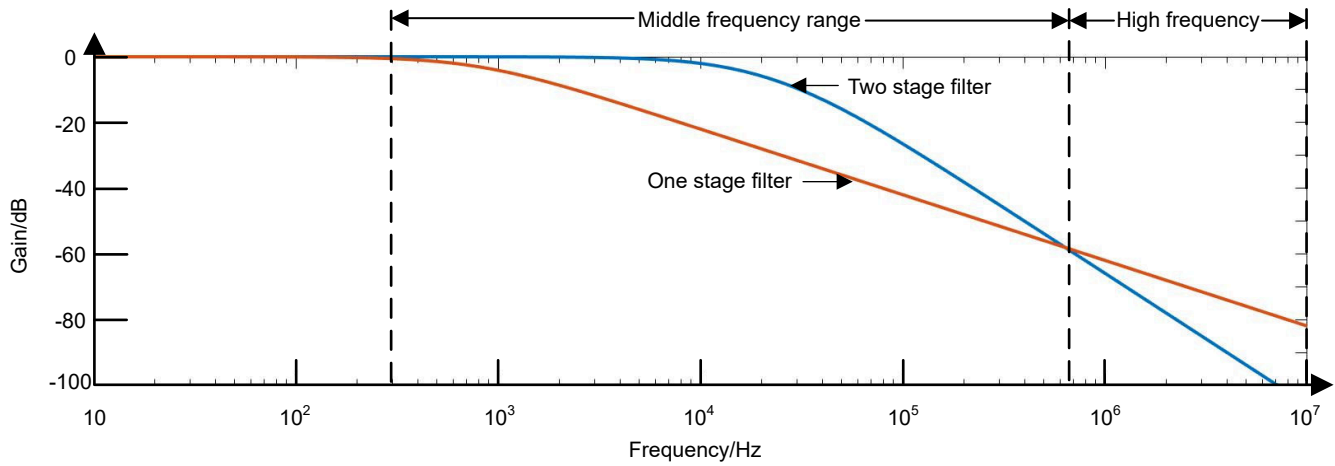

图 2-4. Comparison of Frequency Response with One-Stage RC Filter and Two-Stage RC Filter
- Two stage filter can bring -40 dB/dec gain slope at high frequency. 图 2-4 shows how the two stage filter can have lower gain at high frequency while maintaining larger gain in middle frequency range.